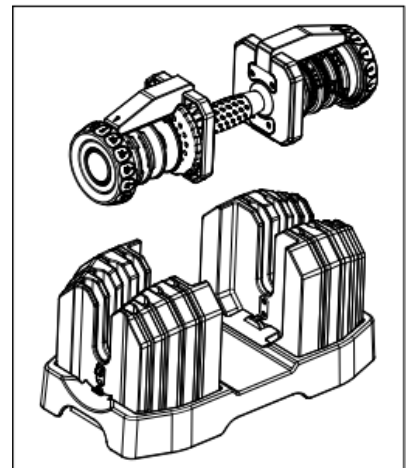

Figure 2
2. You should be able to remove the handles from the base, leaving the plates behind ( Figure 2 ).